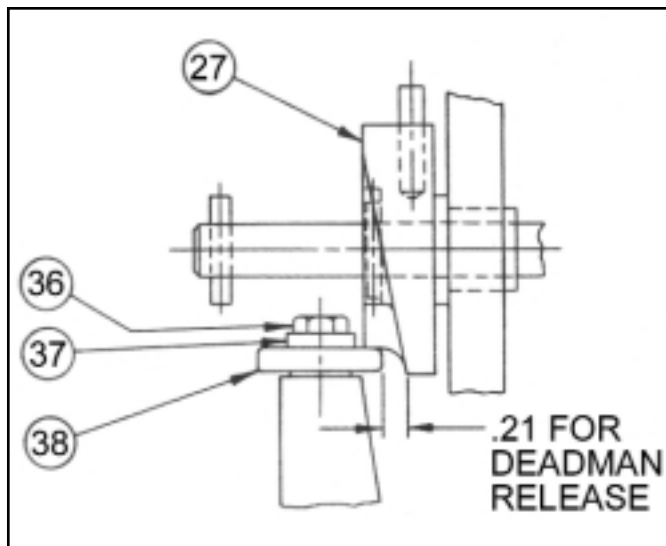

Figure 7.
DEADMAN: Check the manual release. Turn cam (27) clockwise until it stops and hold it in this position. The brake should be released. The cam should return to its normal position when you let go of cam. If not, adjust as follows: Loosen the cap-screw (36). With the brake de-energized and the release cam in its normal position, turn eccentric bushing (37) until the distance between the bearing (38) and face on cam (27) measures .21 inches. See Figure 7. Hold bushing in this position and tighten cap-screw. Check manual release for proper operation. **NOTE:** Due to the size of the discs, a slight drag is common (5-7 lb. ft.).